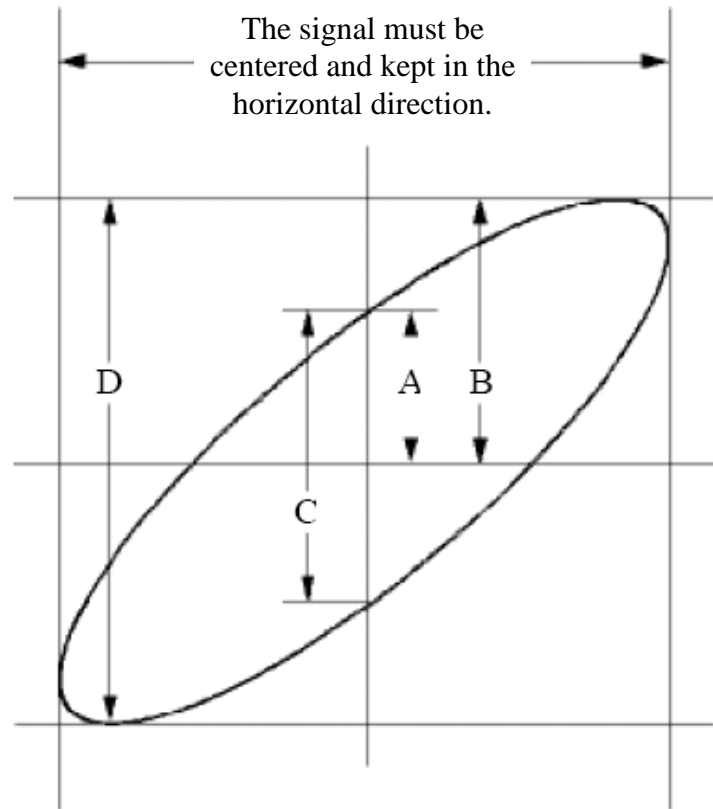

Figure 9-6 Lissajous Graph
- (8) Turn the **Vertical Scale** and **Vertical Position** knobs, optimizing the waveform.
- (9) With the elliptical oscillogram method adopted, observe and calculate the phase difference (see *Figure 9-6*).